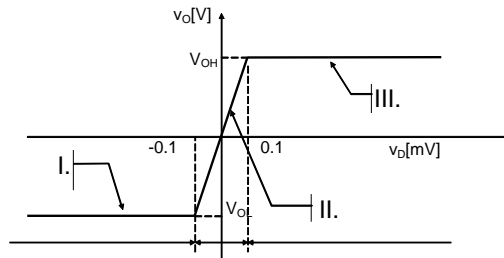

Figure 8.3
7. Figure 8.3 shows the transfer feature of an operational amplifier. II. was used to note: